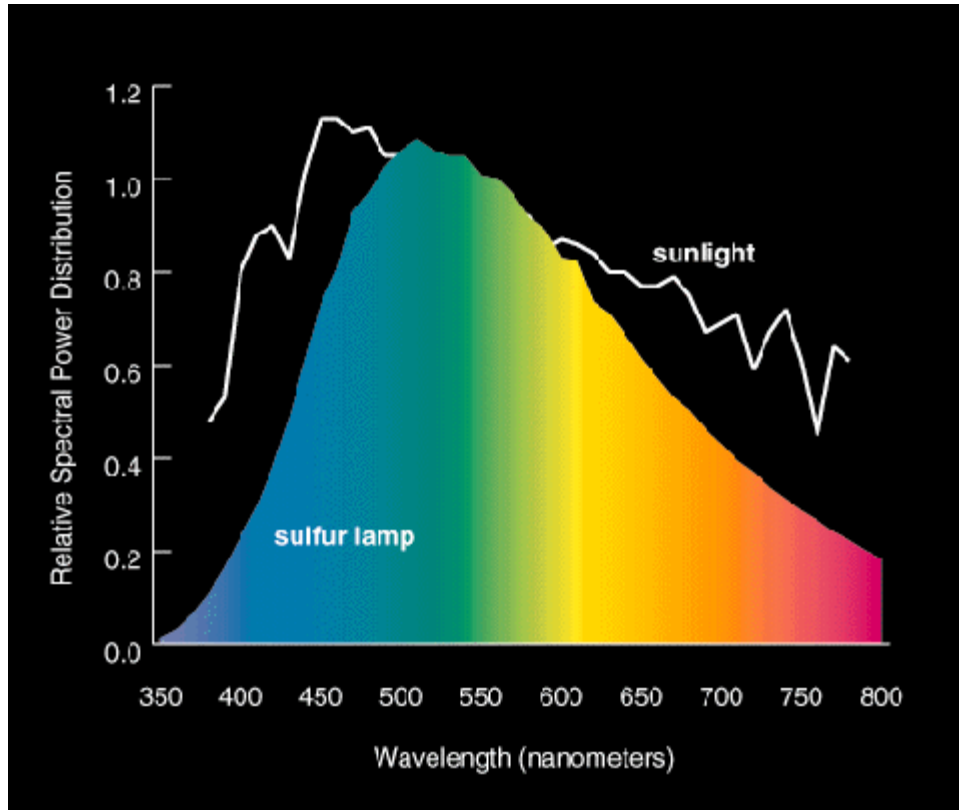

Figure 2 - Light Wave Spectrum from Sulfur Lamp
- Figure 2 – Light Wave Spectrum from Sulfur Lamp